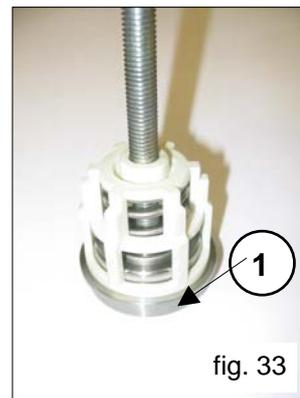

fig. 33
Disassemble the suction and delivery valve units by screwing on an M10 screw long enough to act on the valve and extract the valve guide from the valve seat (pos. ④ fig. 33).